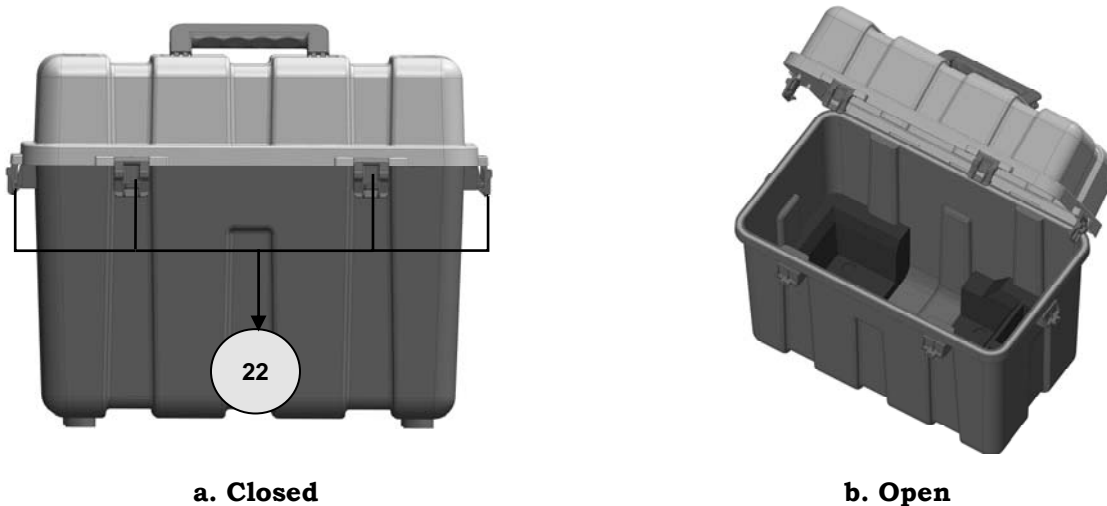

Figure 3.1 - Opening of Carrying Case
- (a) The carrying case cover is opened by opening the latches (22) provided in Figure 3.1.